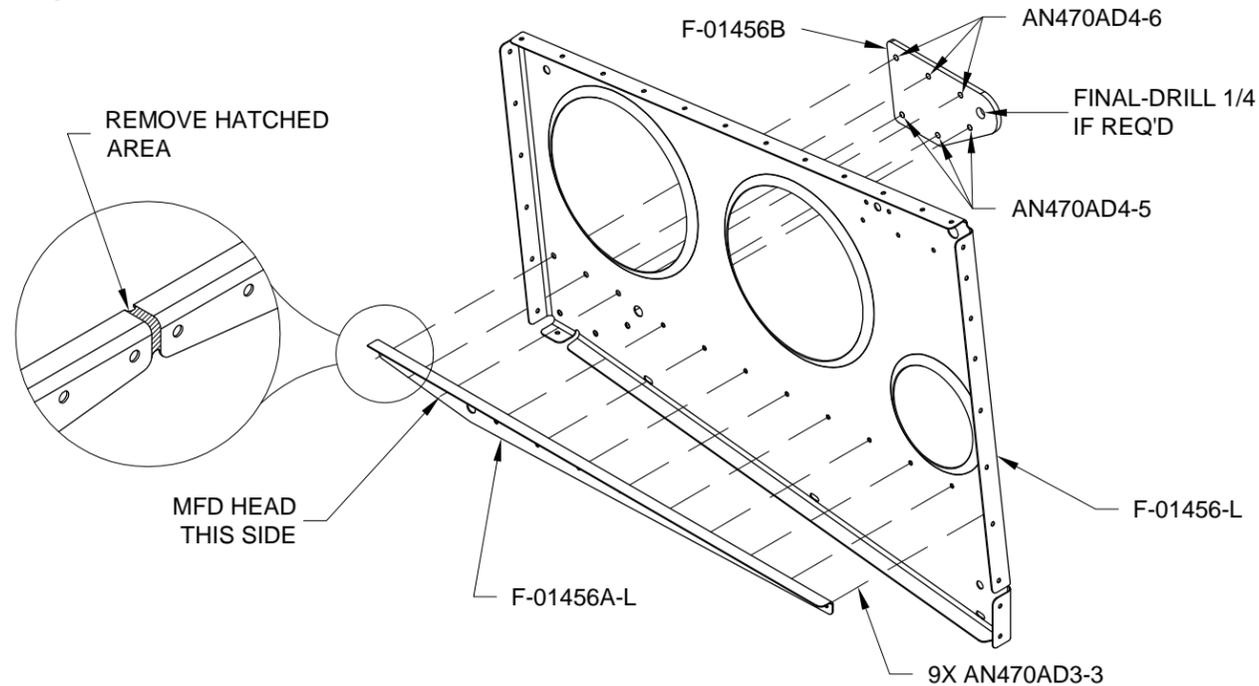

FIGURE 2: RIVET STIFFENERS & BRACKETS TO RIB
Step 2: Separate and deburr the F-01456A-L & -R Rib Stiffeners as shown in Figure 2.
Step 3: Rivet the F-01456A-L & -R Rib Stiffeners and F-01456B Gas Spring Brackets to the F-01456-L & -R Fwd Fuse Ribs as shown in Figure 2.